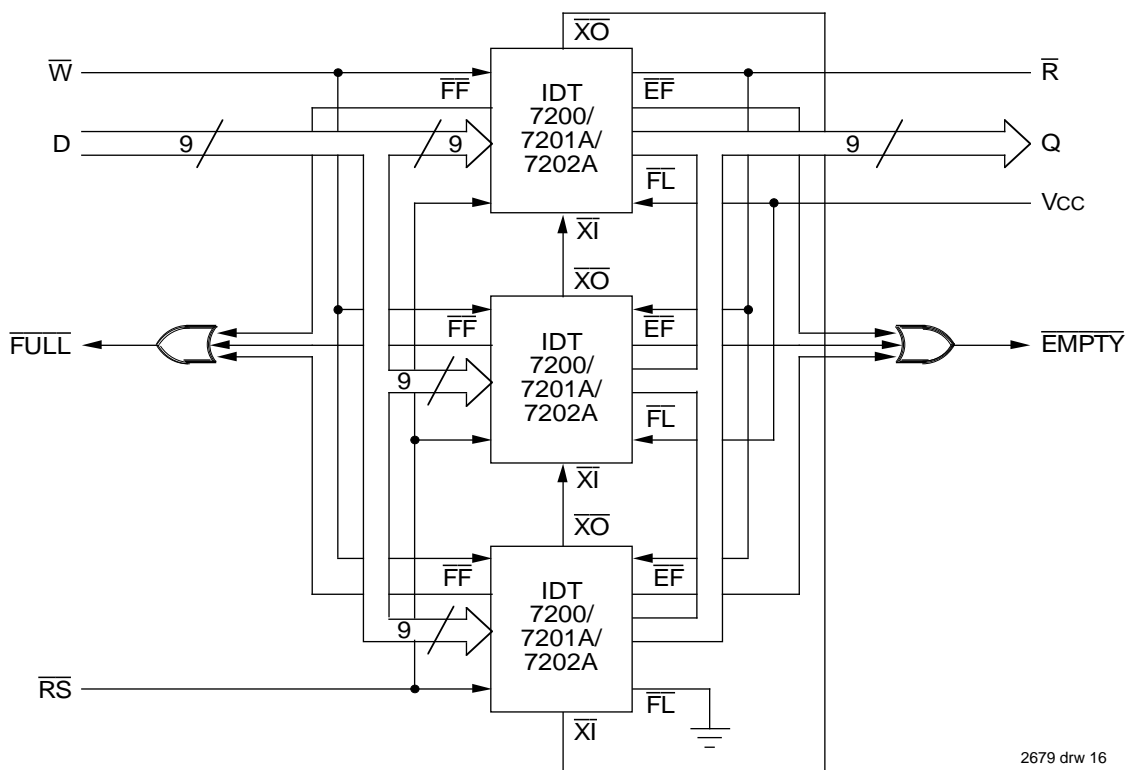

Figure 14. Block Diagram of 768 x 9/1536 x 9/3072 x 9 FIFO Memory (Depth Expansion)
The IDT7200/7201A/7202A can easily be adapted to applications when the requirements are for greater than 256/512/1024 words. Figure 14 demonstrates Depth Expansion using three IDT7200/7201A/7202As. Any depth can be attained by adding additional IDT7200/7201A/7202As. The IDT7200/7201A/7202A operates in the Depth Expansion mode when the following conditions are met:
3. The Expansion Out ( $\overline{XO}$ ) pin of each device must be tied to the Expansion In ( $\overline{XI}$ ) pin of the next device. See Figure 14.
4. External logic is needed to generate a composite Full Flag ( $\overline{FF}$ ) and Empty Flag ( $\overline{EF}$ ). This requires the ORing of all  $\overline{EF}$ s and ORing of all  $\overline{FF}$ s (i.e. all must be set to generate the correct composite  $\overline{FF}$  or  $\overline{EF}$ ). See Figure 14.
1. XI-bar is connected to XI-bar of previous device. See Figure 14. RS-bar = Reset Input, FL/RT-bar = First Load/Retransmit, EF-bar = Empty Flag Output, FF-bar = Flag Full Output, XI-bar = Expansion Input, HF-bar = Half-Full Flag Output
1. For depth expansion block see section on Depth Expansion and Figure 14.